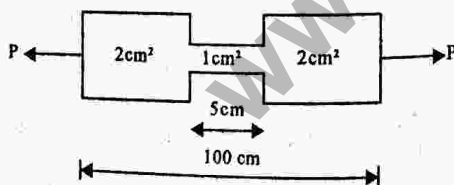

Fig. 4
- (b) A bar 100 cm in length is subjected to an axial pull, such that the maximum stress is equal to  $150 \text{ MN/m}^2$ . Its area of cross section is  $2 \text{ cm}^2$  over a length of 95 cm and for the middle 5 cm length it is only  $1 \text{ cm}^2$ . If  $E = 200 \text{ GN/m}^2$  calculate the strain energy stored in bar. Shown in figure 4.